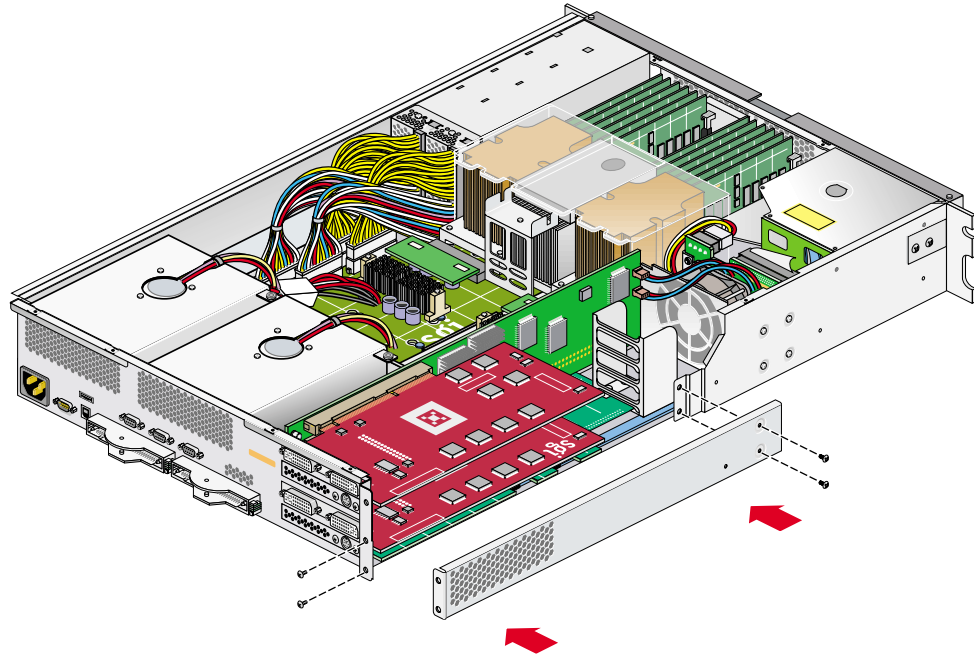

Figure 4-16 Replacing the PCI/PCI-X Support Bracket
4. Replace the lower PCI/PCI-X support bracket and screw in the four Phillips screws, as shown in Figure 4-16.